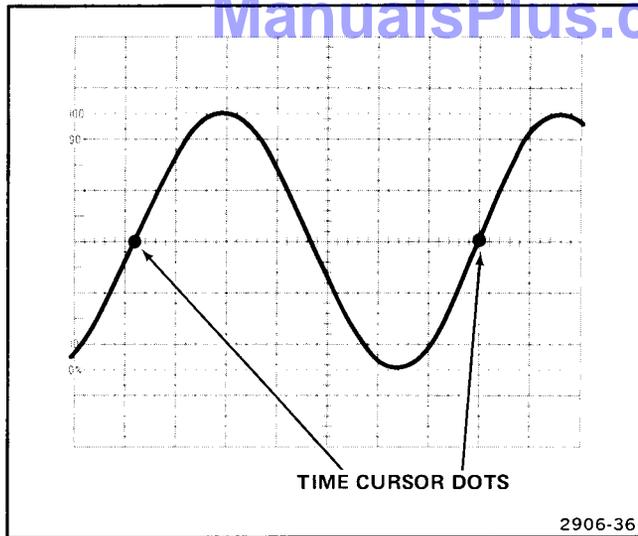

Figure 19. Time duration, cursor method.
3. Position the display to place the time measurement points on the center horizontal graticule line (see Figure 19).